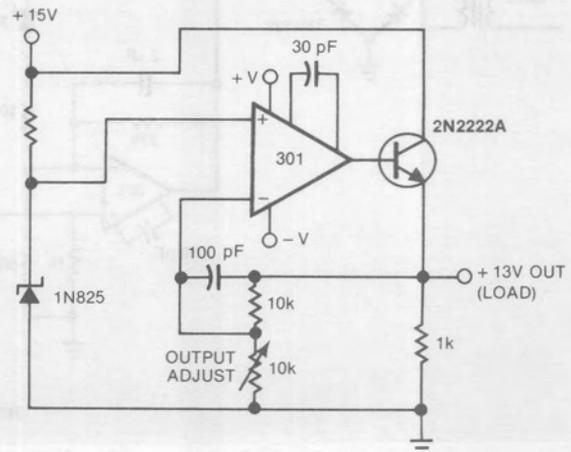

Fig 12—You could stop this voltage reference from oscillating by adding one capacitor to load the emitter, but there's a better fix. What is it?
17. Fig 12 shows another voltage-reference circuit. Its output, instead of being dc, oscillates at 10 MHz. Using a 10- $\mu$ F capacitor to load the emitter stops the oscillation, but this is a crude solution to the problem. What's the real fix?